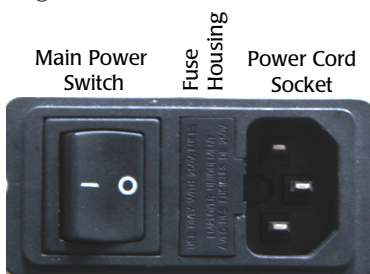

Fig. 63—Unplug the power cord to access the fuse housing release.
A spare fuse is provided in the fuse housing (Fig. 63).
1. Turn the main power switch off (I).
2. Unplug the power cord from the power cord socket on the back of the **AirTherm** (Fig. 63).